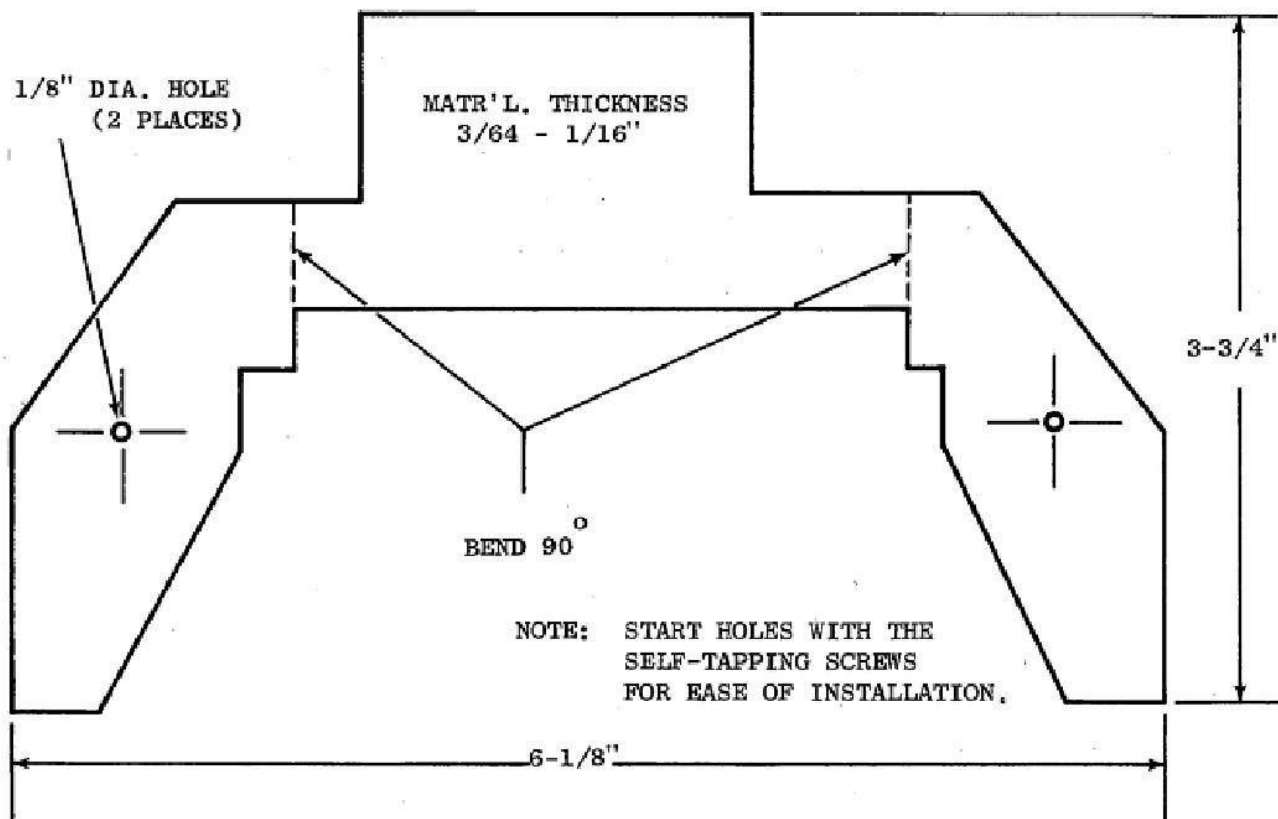

FIG. 1
2. Remove the three (3) screws attaching the center air outlet duct to the distributor.
3. Fabricate from sheet metal or aluminum (3/64 - 1/16" thick by 6-1/8" x 3-3/4") a baffle using Figure 1 as a template.